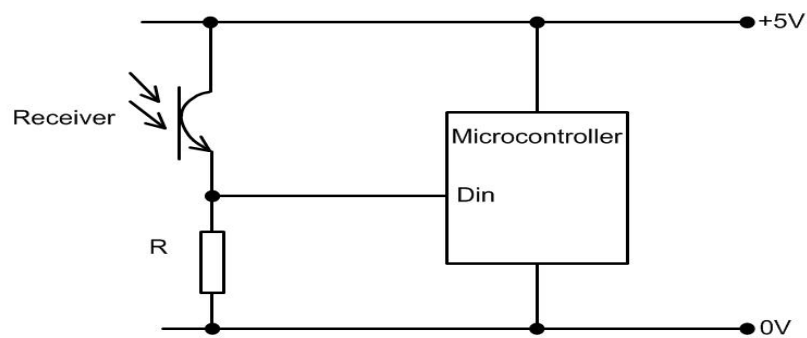

Fig.5
- (iii) The receiver on the shaft encoder is connected to the input of a microcontroller as shown in **Fig.5**.